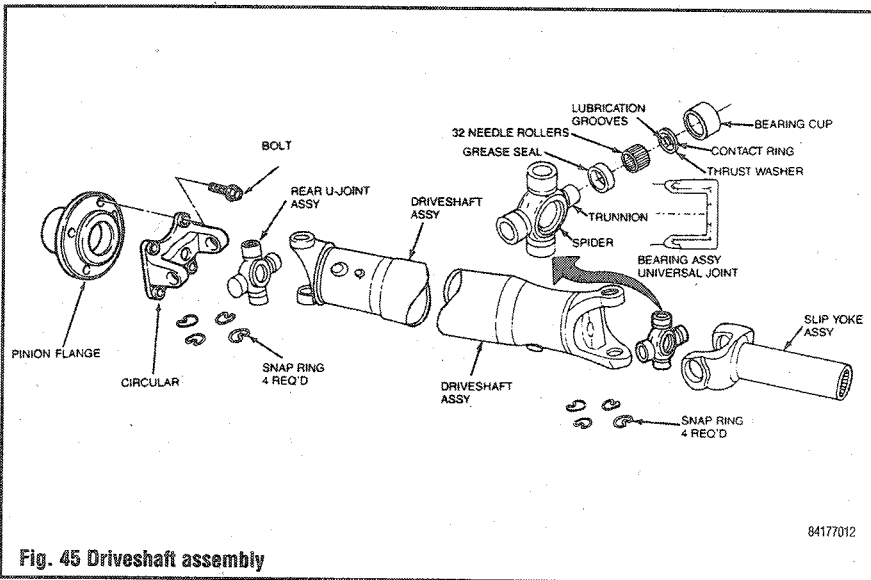

Fig. 45 Driveshaft assembly
▶ See Figures 45, 46, 47, 48 and 49